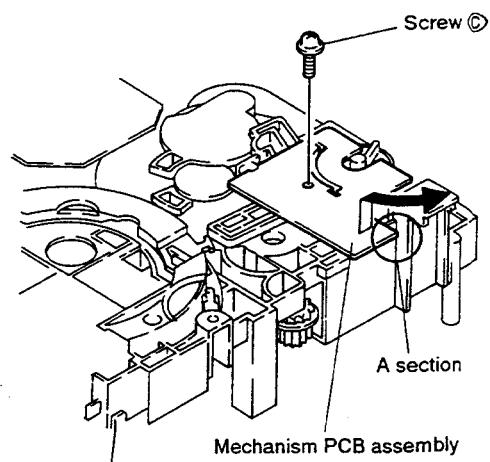

Fig. 1-7
- (4) Set the tray II to the Close position.
- (5) Remove screws holding the twin tray mechanism, and take out the twin tray mechanism from the body.
- (6) Turn over the twin tray mechanism to set the position as shown in Fig. 1-7.
- (7) Remove a screw Ⓒ holding the mechanism PCB assembly.
- (8) Hold the A section of the mechanism PCB assembly and lift it up to the direction of the arrow, and remove the loading motor accompanied with the mechanism PCB assembly.